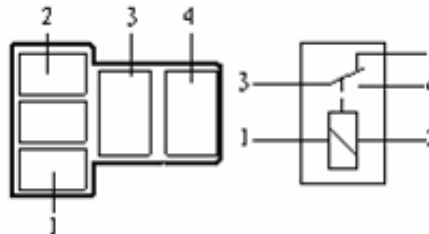

Fig. 4-86
4. Check front fog light relay as shown in Fig. 4-86.